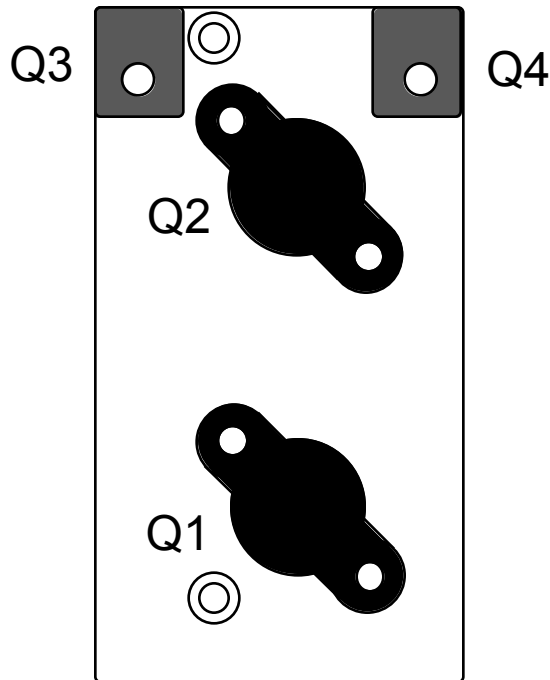

Figure 35
- Locate the two TO-126 thermal pads (rectangular, gray). Remove the adhesive backing, then attach them to the heat sink pedestal (adhesive side down) at the locations marked Q3 and Q4 in Figure 35. Center each pad over its associated hole.